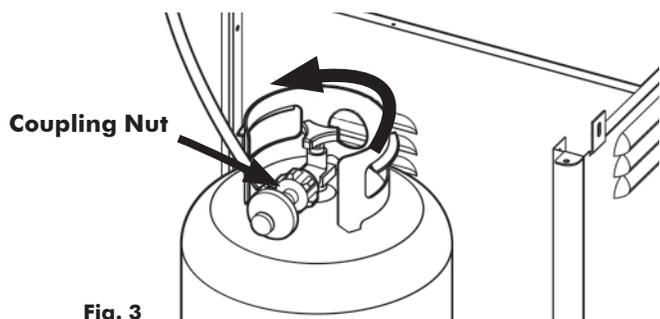

Fig. 3
5. With the regulator hose connected to the LP Gas Cylinder, turn the knob on the Cylinder counterclockwise. (Fig. 3)
- a. If leak appears at either end of hose and regulator assembly, retighten the connection at the leak, but do not over-tighten. (NOTE: Only hand tighten at coupling nut in Fig. 3 shown on previous page) Repeat Leak Test.